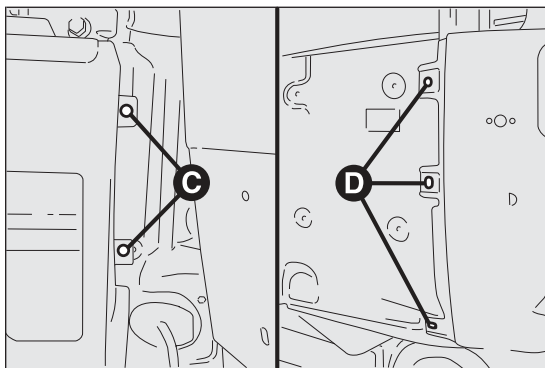

fig. 202
- ☐ unscrew both fastenings C fig. 202 on the side of the rear swing door, accessible by opening the door slightly;
- ❑ unscrew the three side fastenings D on the side of the panel, accessible after removing the side moulding fig. 202. To remove the moulding, unscrew the three lower self-tapping screws and detach the pins carefully to avoid breaking them. If one or more pins are broken, they will have to be replaced;